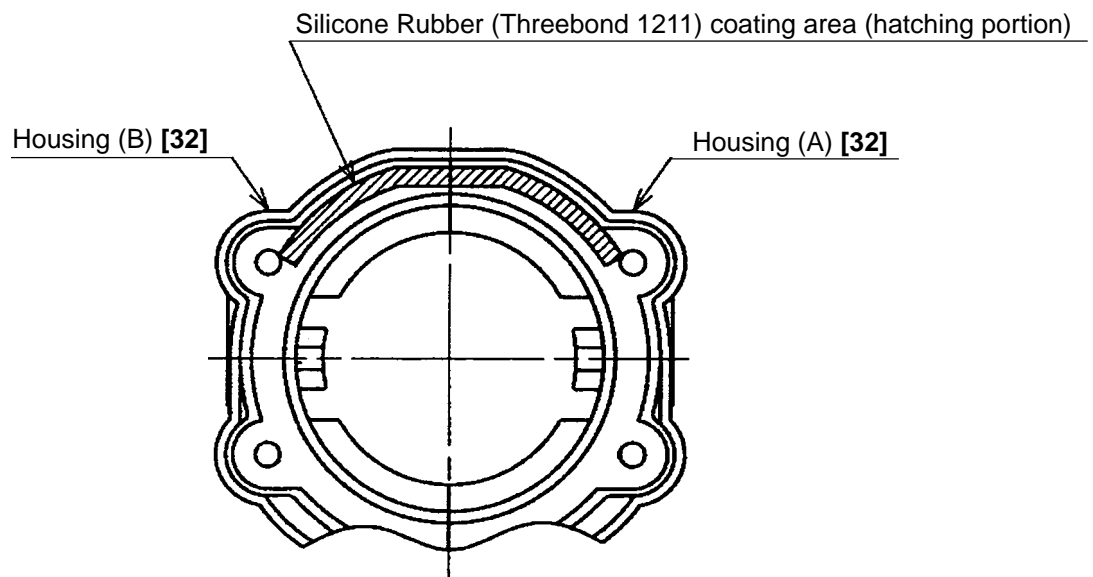

Fig. 7
- (d) Mount the hammer assembly onto the J-297 base for washer (S). With a hand press, push down the top of the Spindle **[18]** to compress the Spring **[14]**. On this condition, mount the Stopper **[16]** onto the spindle shaft and then release the hand press.
- (e) Mount the Ring Gear **[21]**, Washer (C) **[22]**, Ball Bearing **[23]**, Inner Cover **[24]**, Damper **[25]** and the Retaining Ring **[26]** to the above reassembly. Furthermore, mount the other mechanical parts and Anvil (B) **[9]**, then the Hammer Case **[7]**.
(4) Mounting the Gear Box Ass'y **[1]** to the housing
Coat Housing (A).(B) Set **[32]** with Silicon Rubber (THREEBOND 1211) as shown in Fig. 7. Mount the Gear Box Ass'y **[1]** so that the pinion press-fitted in the Motor **[27]** properly meshes with the Idler Gear Set **[19]**. Check that Anvil (B) **[9]** turns smoothly. If not, the gear meshes improperly. Check the meshing condition. Tighten the four Tapping Screws (W/Sp. Washer) D4 x 35 **[6]**. Wipe the Silicon Rubber protruded from the housing with a cloth.